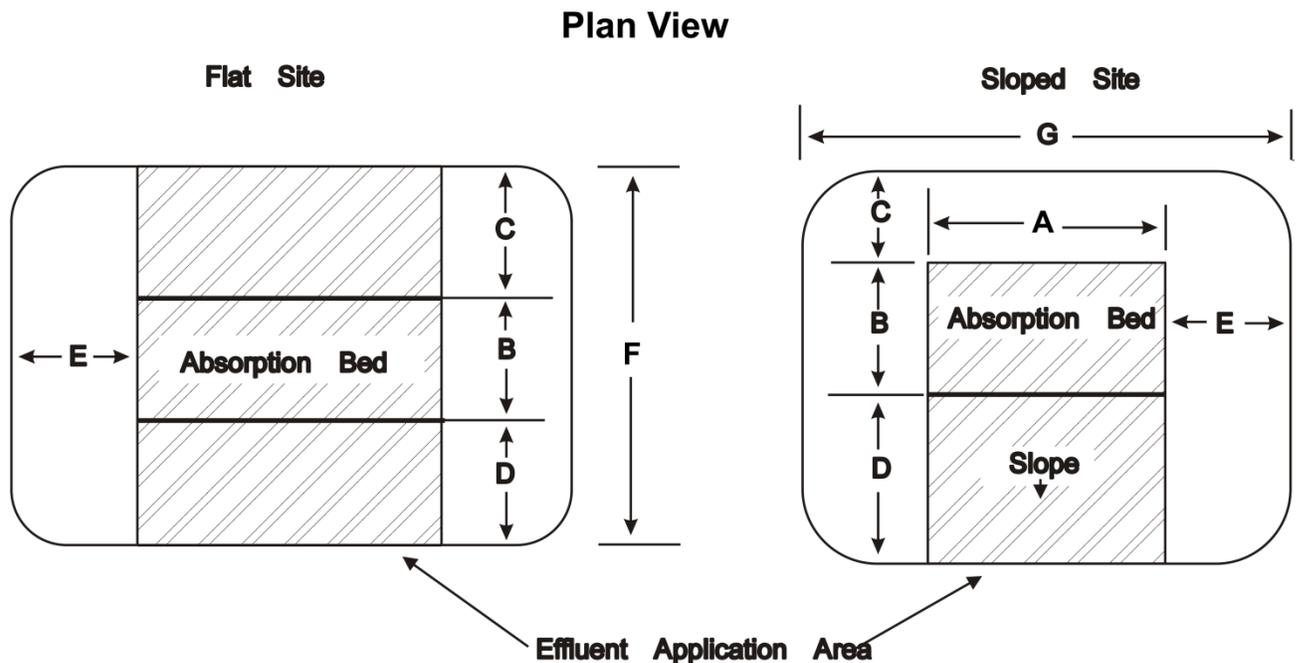

Figure 4-15. Illustration Used in Conjunction with Sand Mound Design Checklist for Flat and Sloped Sites
Figure 4-15 can be used with Table 4-22 (Sand Mound Design Checklist) for flat and sloped sites.
- f) The sand mound must be covered with a minimum topsoil depth of six (6) ~~to twelve (12)~~ inches. The soil cap at the center of the mound must be crowned to twelve (12) inches. Topsoil and soil cap must be a sandy loam, loamy sand, or silt loam.
- h) The sand fill area must be as long and narrow as practical, with plan view dimension G exceeding dimension F. (Refer to Figure 4-15.)